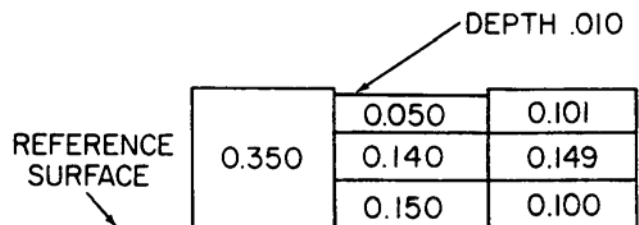
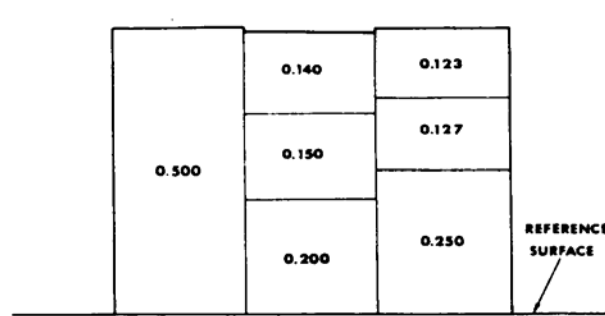

Figure 4. Dial indicating depth gage calibration.
Figure 5. Dial indicating depth gage calibration.
(1) Set up triangular base and three sets of gage blocks to measure a depth of 0.010 inch (fig. 4 and table 3) and for  $\frac{1}{2}$  inch depth gage (fig. 5 and table 4). Only center group of blocks need to be changed.